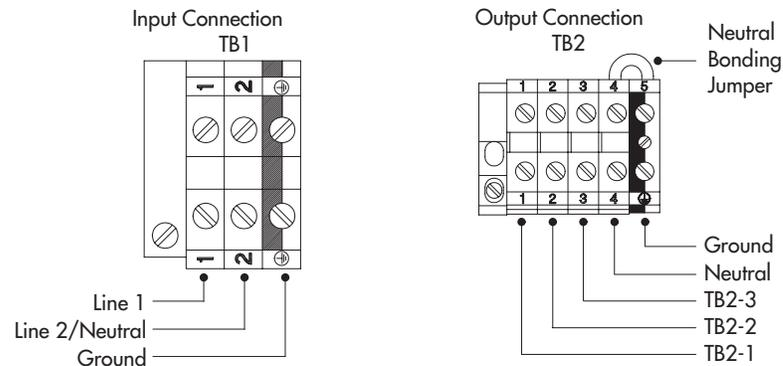

Figure 8. Hardwired BDM Terminal Blocks
- 15** Hardwire the input (TB1) and output terminations (TB2) for the BDM. See the following hardwired terminations table for specifications. See Figure 8 on page 29 for a detailed view of the terminal blocks.